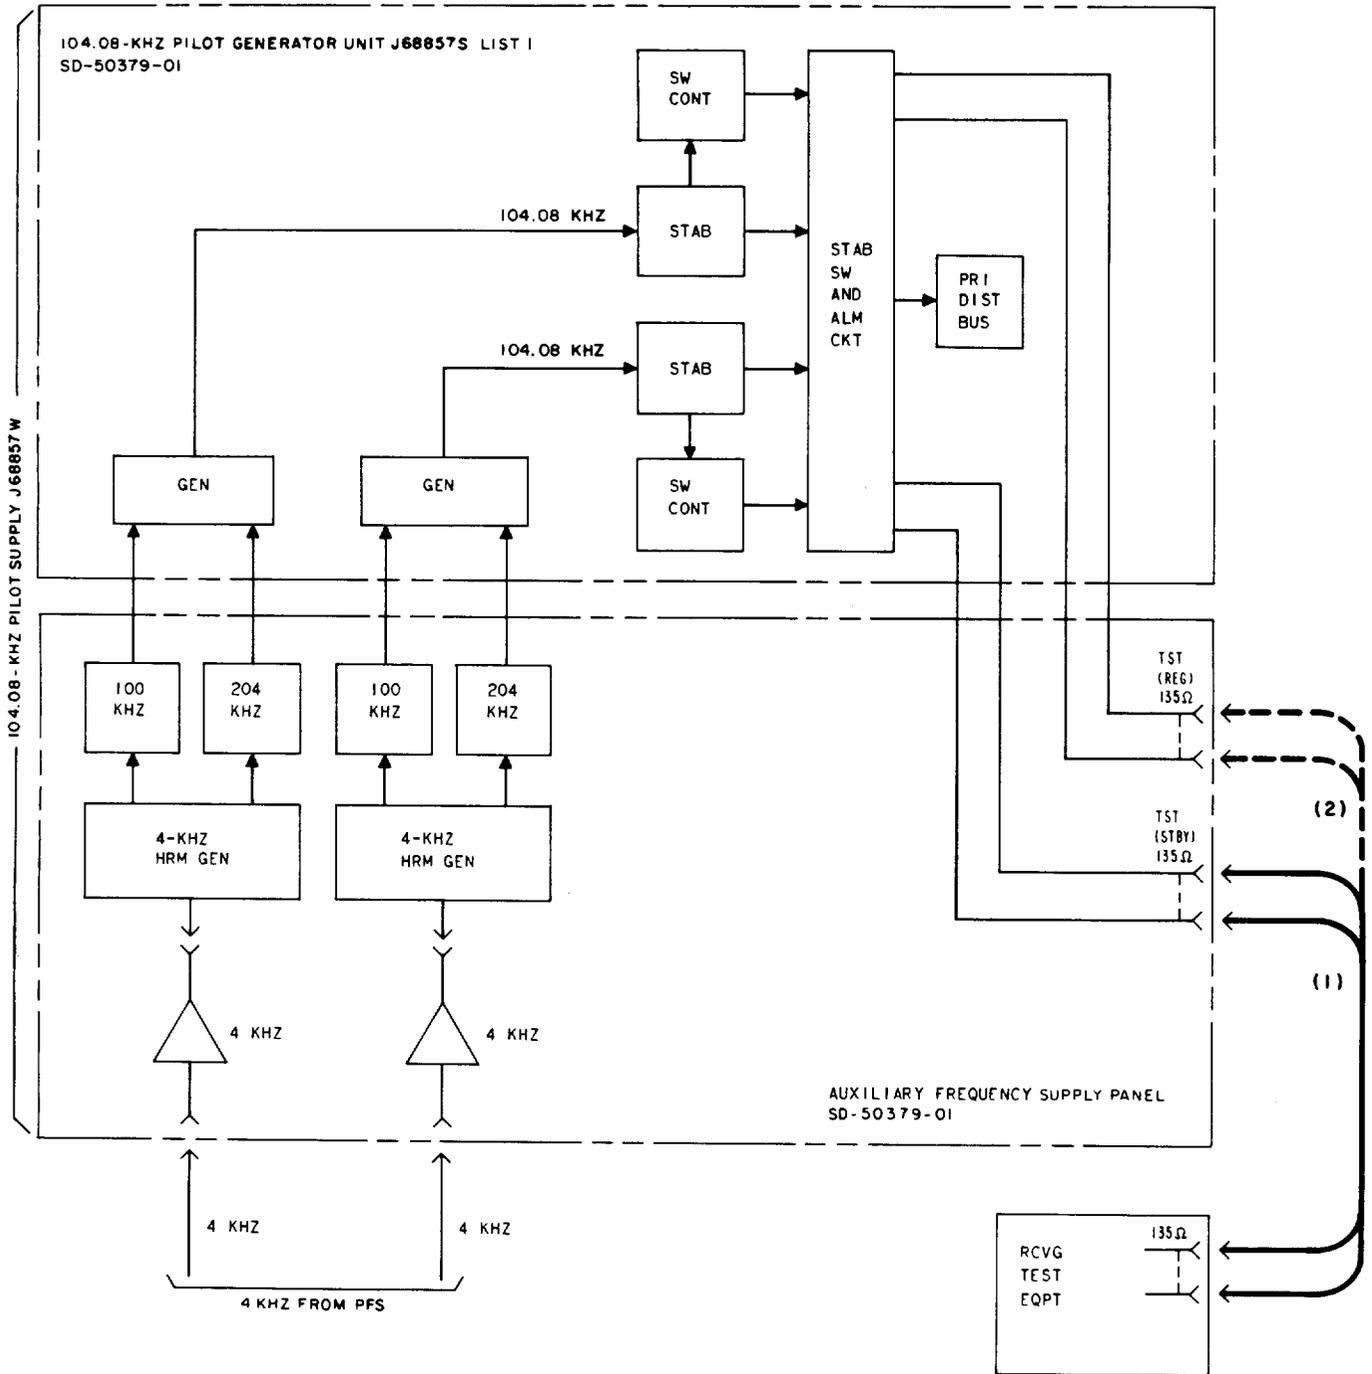

Fig. 5—Stabilizer Output Test for Pilot Supply J68857W
2	Measure the pilot power at the TST STBY jack [patch (1), Fig. 5].
8	Remove patch (1), Fig. 5. ◆ Check regular stabilizer output ◆
9	Make patch (2), Fig. 5.
16	Remove patch (2), Fig. 5. B. 104.08-kHz Switch Control Output Measurement ◆ Check regular switch control output ◆